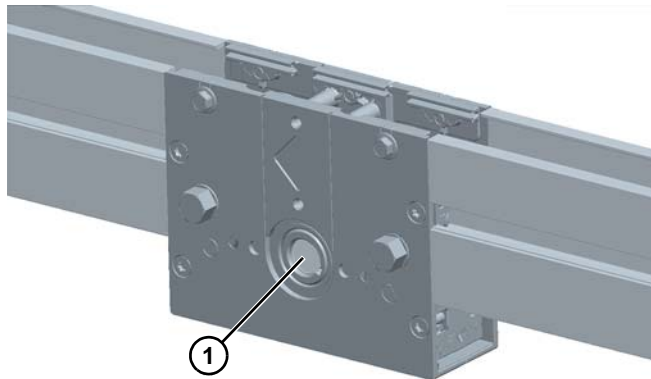

Figure 30
- From opposite side, using a punch and hammer, carefully tap the shaft (**Figure 30, item 1**) out of the mid drive assembly.